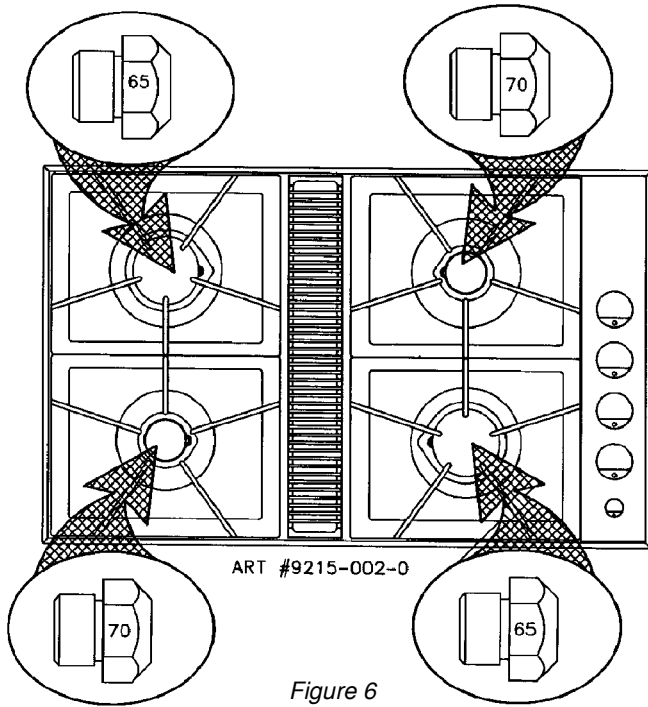

Figure 6
- Step 5: Locate the LP orifice spud packet taped to the underside of the burner box. The spuds have small numbers stamped on the side. This number codes the orifice diameter and its correct burner location. Reference figure 6 on the next page for correct LP orifice spud location for 4 burner and 5 burner models, respectively.